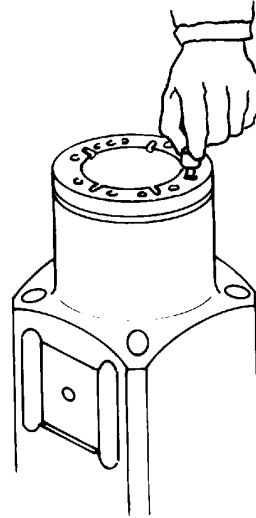

Fig. 51 - Check valve assembly
- e) Insert the check valves (pos. 205), (fig. 51);
- f) Mount the pin (pos. 211) in the circular guide (pos. 210) and insert them both into the cylinder (pos. 201);